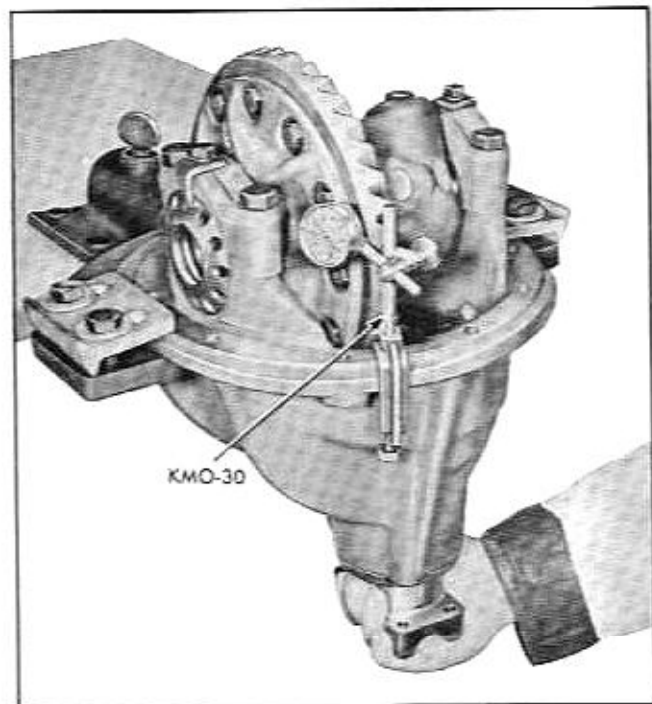

Fig. 4-13 Checking Ring Gear Run-out With KMO-30 Set
5. Check ring gear runout using dial indicator on backside of ring gear (Fig. 4-13). Runout should not exceed .002". Excessive runout could be the result of: warped ring gear or mounting flange on case, worn side bearings, misaligned carrier cross-bore, or burrs on case mounting flange or side bearing hubs.